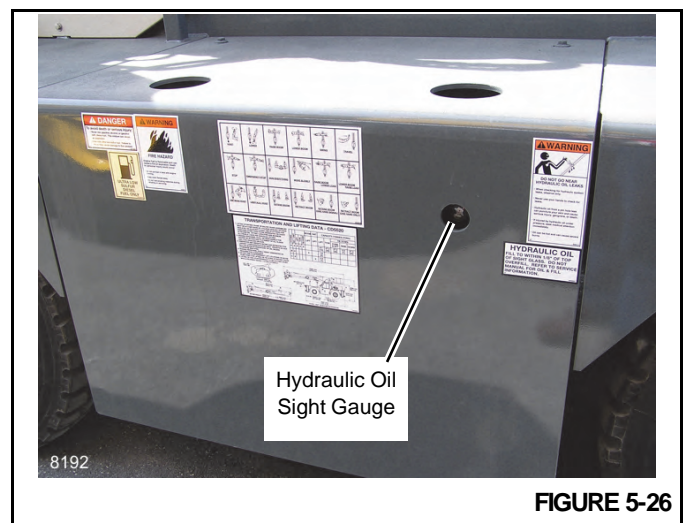

FIGURE 5-26
3. Visually check the oil level on the hydraulic oil level sight gauge Figure 5-26. The hydraulic oil should be 3 mm (0.125 in) from the top of the sight gauge. If low, fill tank with clean recommended hydraulic oil.